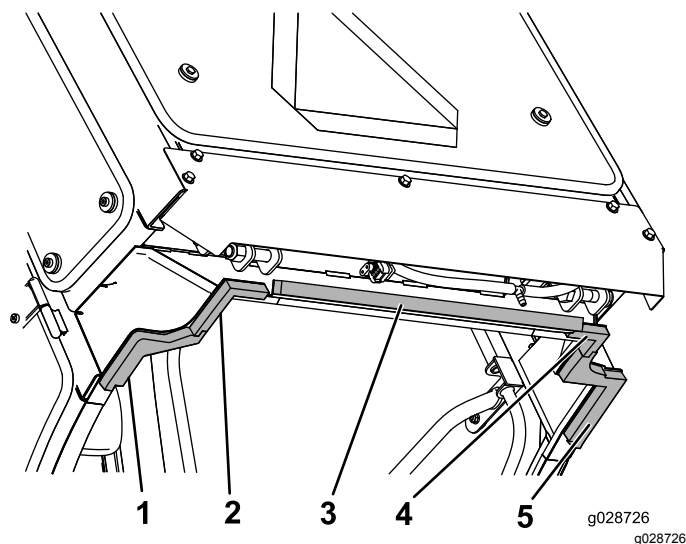

Figure 61
1. Apply the rear foam onto the angled tab at the rear of the cab as shown in Figure 61.
2. Install the left rear and right, rear foam seal to the inner corners of the rear, lower edge of the cab frame as shown in (Figure 61).
3. Align the innermost edges of the left middle and right middle foam seals with the left, rear and right, rear foam seal and interlock the tabs (Figure 61).